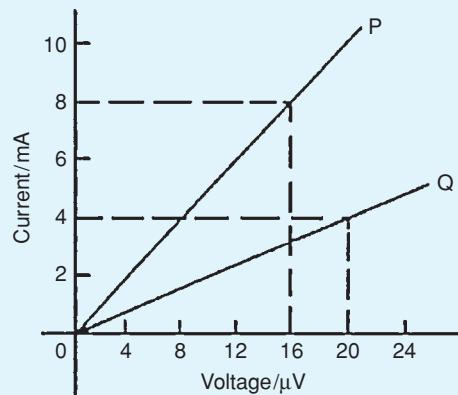

Figure 2.9
3. Graphs of current against voltage for two resistors P and Q are shown in Fig. 2.9. Determine the value of each resistor. [2 m Ω , 5 m Ω]